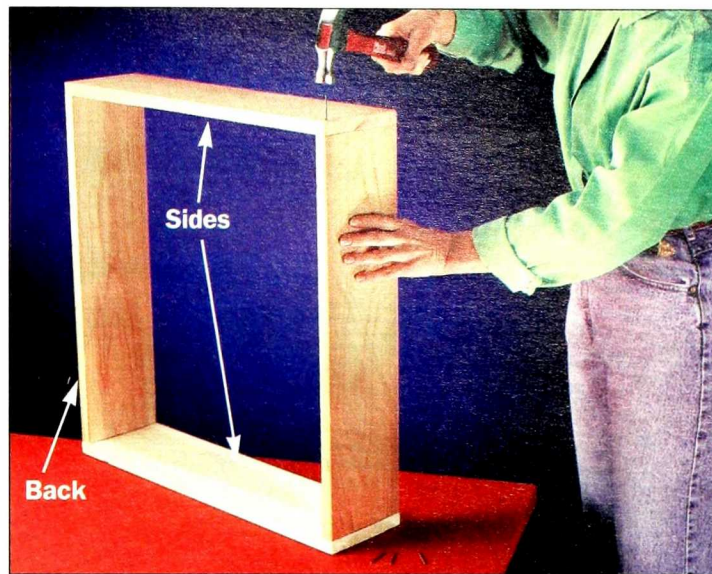

Figure 2: Nail together a box to begin the chair assembly. Nail through the sides and into the front and back pieces.
- Nail the seat box parts (A) together with 4d galvanized finish nails (Figure 2). Notice that the sides overlap the ends of the front and back boards.